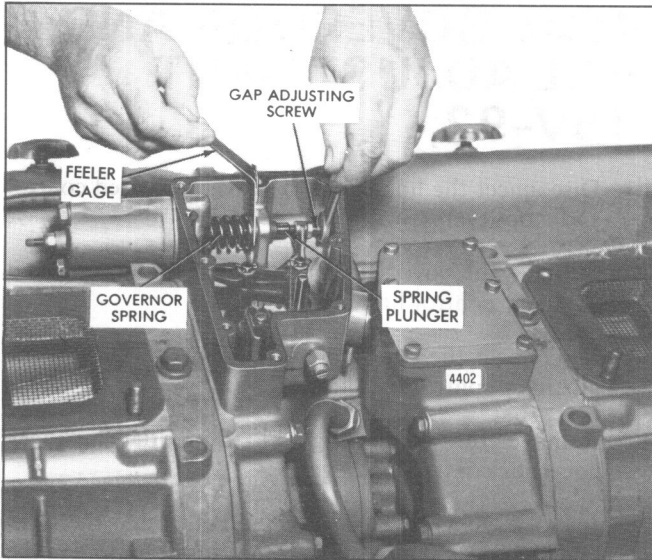

Fig. 3 - Adjusting Governor Gap
4. Insert a .006" feeler gage between the spring plunger and the plunger guide (Fig. 3). If required, loosen the locknut and turn the adjusting screw until a slight drag is noted on the feeler gage.